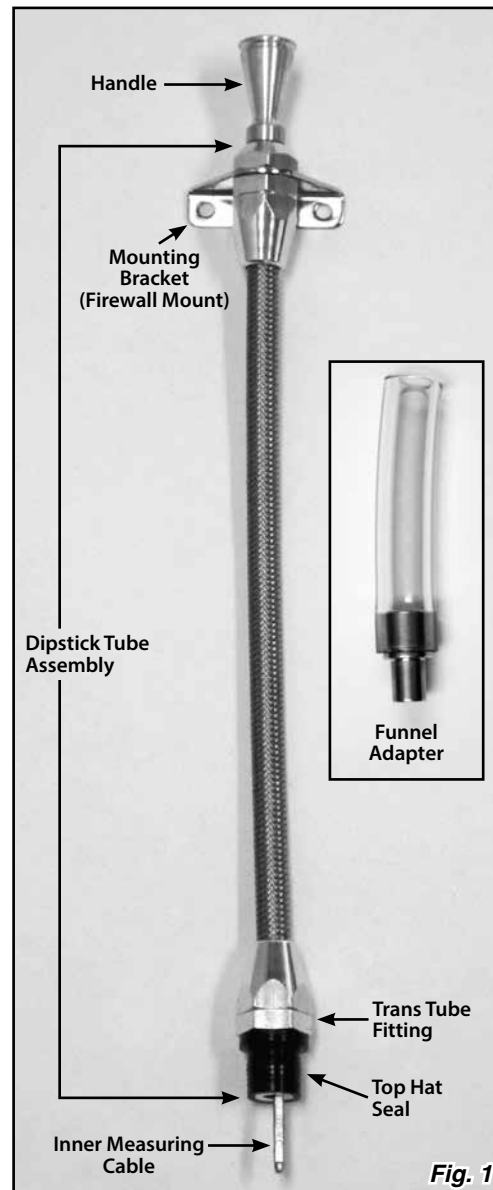
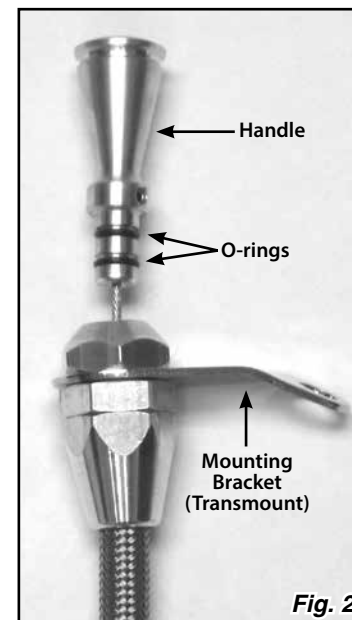

Fig. 1
Fig. 2
Refer to Fig. 1 and Fig. 2 for the component names.
Step 7: Make sure the dipstick tube assembly is not touching the exhaust at any point. Lightly lubricate the o-rings on the dipstick handle with clean transmission fluid. **Fig. 2**